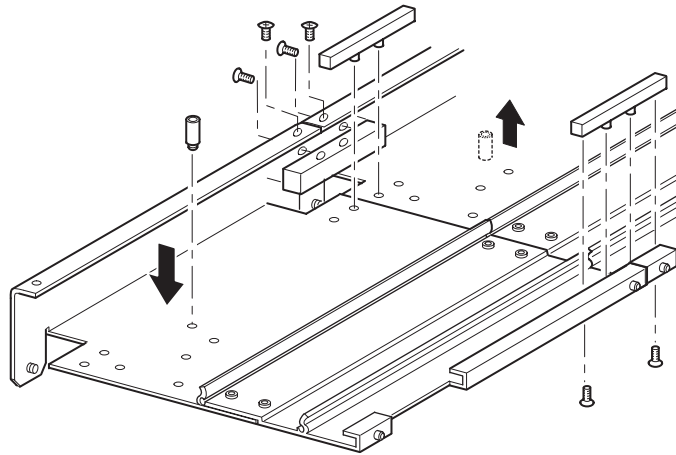

Figure 76. Tie bar installation
- b. Align the tie bar pins of the two narrow tie bars to the holes in the extension and primary chassis and attach with the four mounting screws (two each) as shown in Figure 76 on page 80.
- 9. Remove the bottom stop standoff from the primary chassis and attach it to the cartridge elevator extension in the corresponding mounting hole as shown in Figure 76.